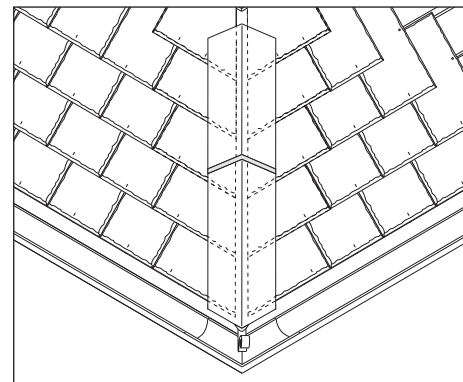

Fig. 18 – Mortar bedded hip with ridge/hip tile capping
- 5 Shape the first hip tile neatly to align with the corner of the eaves and fill the end with mortar and slips as necessary (Fig. 18).